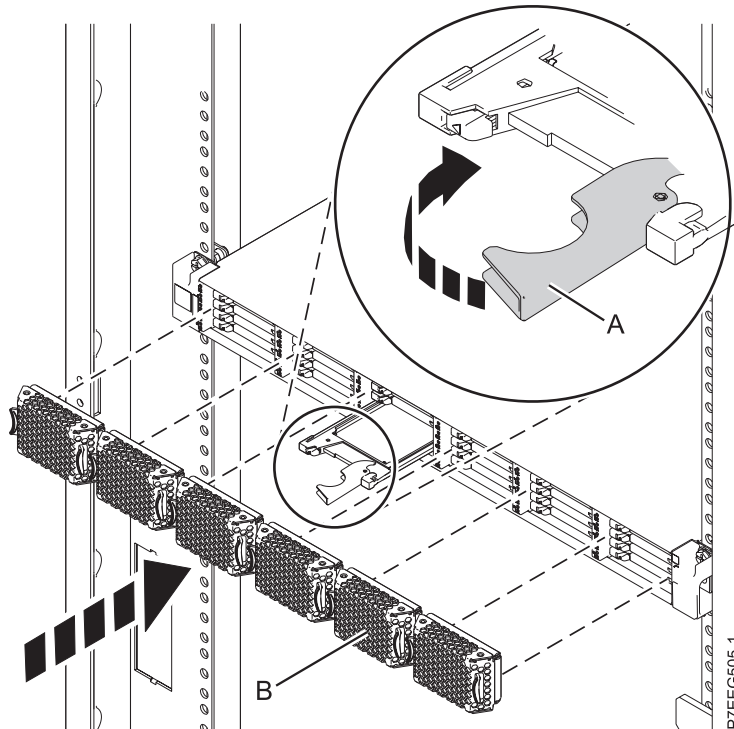

Figure 19. Installing a solid-state drive in the EDR1 PCIe storage enclosure
1. With the handle in the unlocked position, align the solid-state drive with the guide rails in the enclosure. See Figure 19 on page 31,
3. Rotate the handle (A) to the locked position, as shown in Figure 19 on page 31.
4. Install the bezel (B).